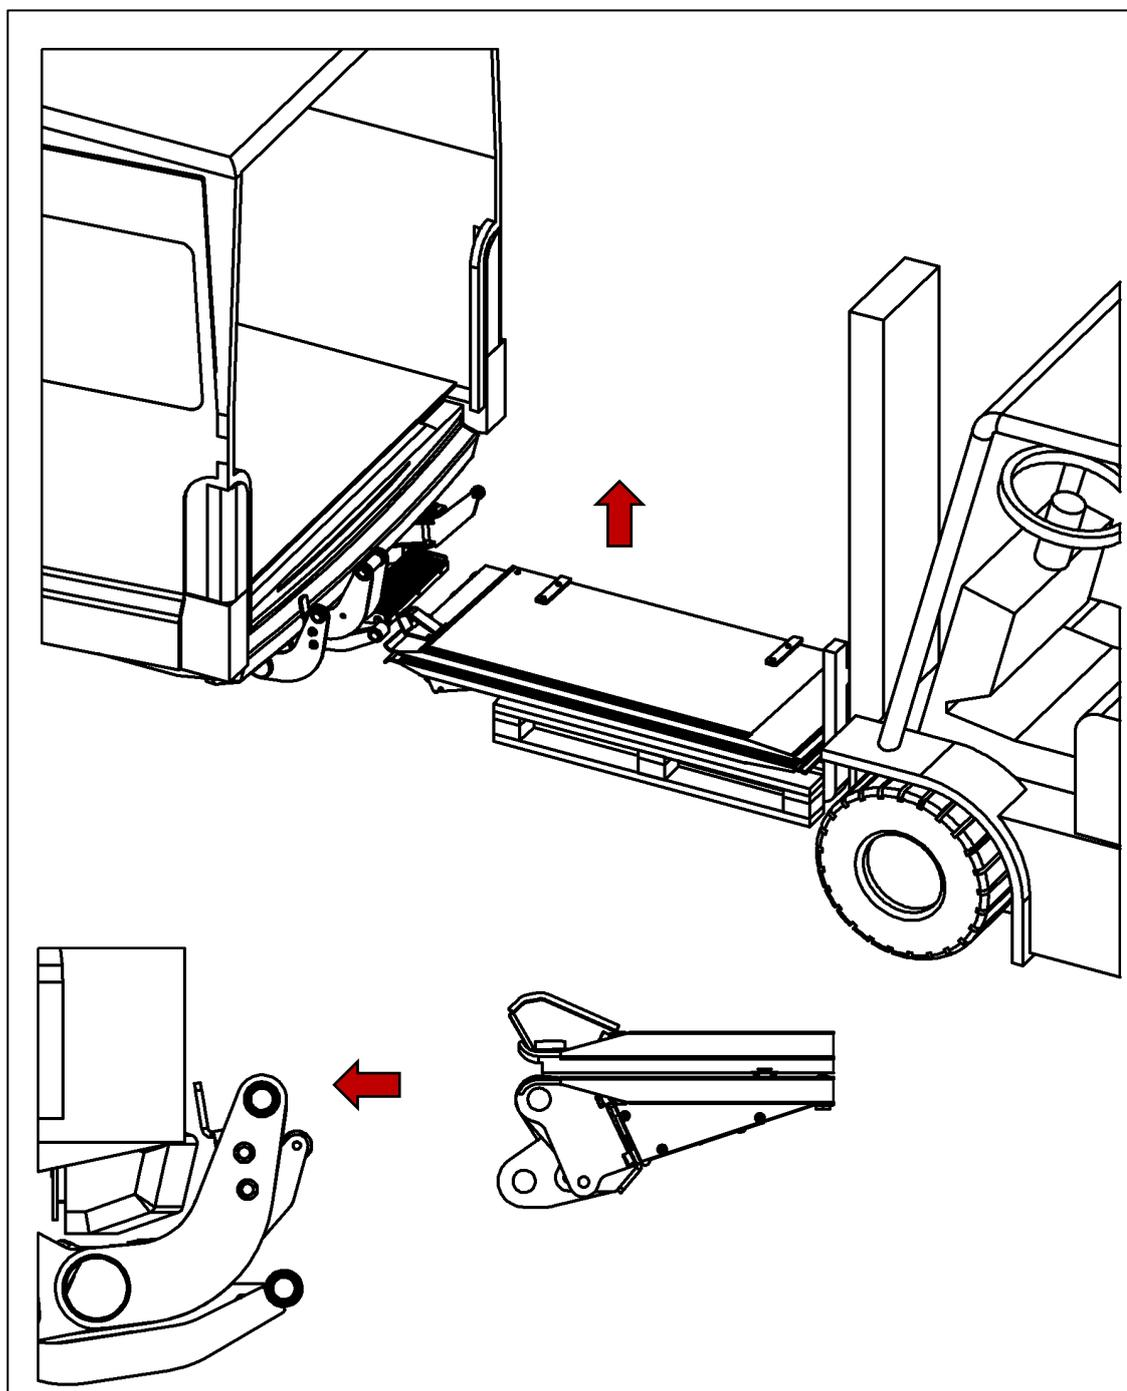

Figure 49
- Lift the platform using suitable means, e.g. crane, assembly table, or pallet truck and pallet (see Fig. 49).